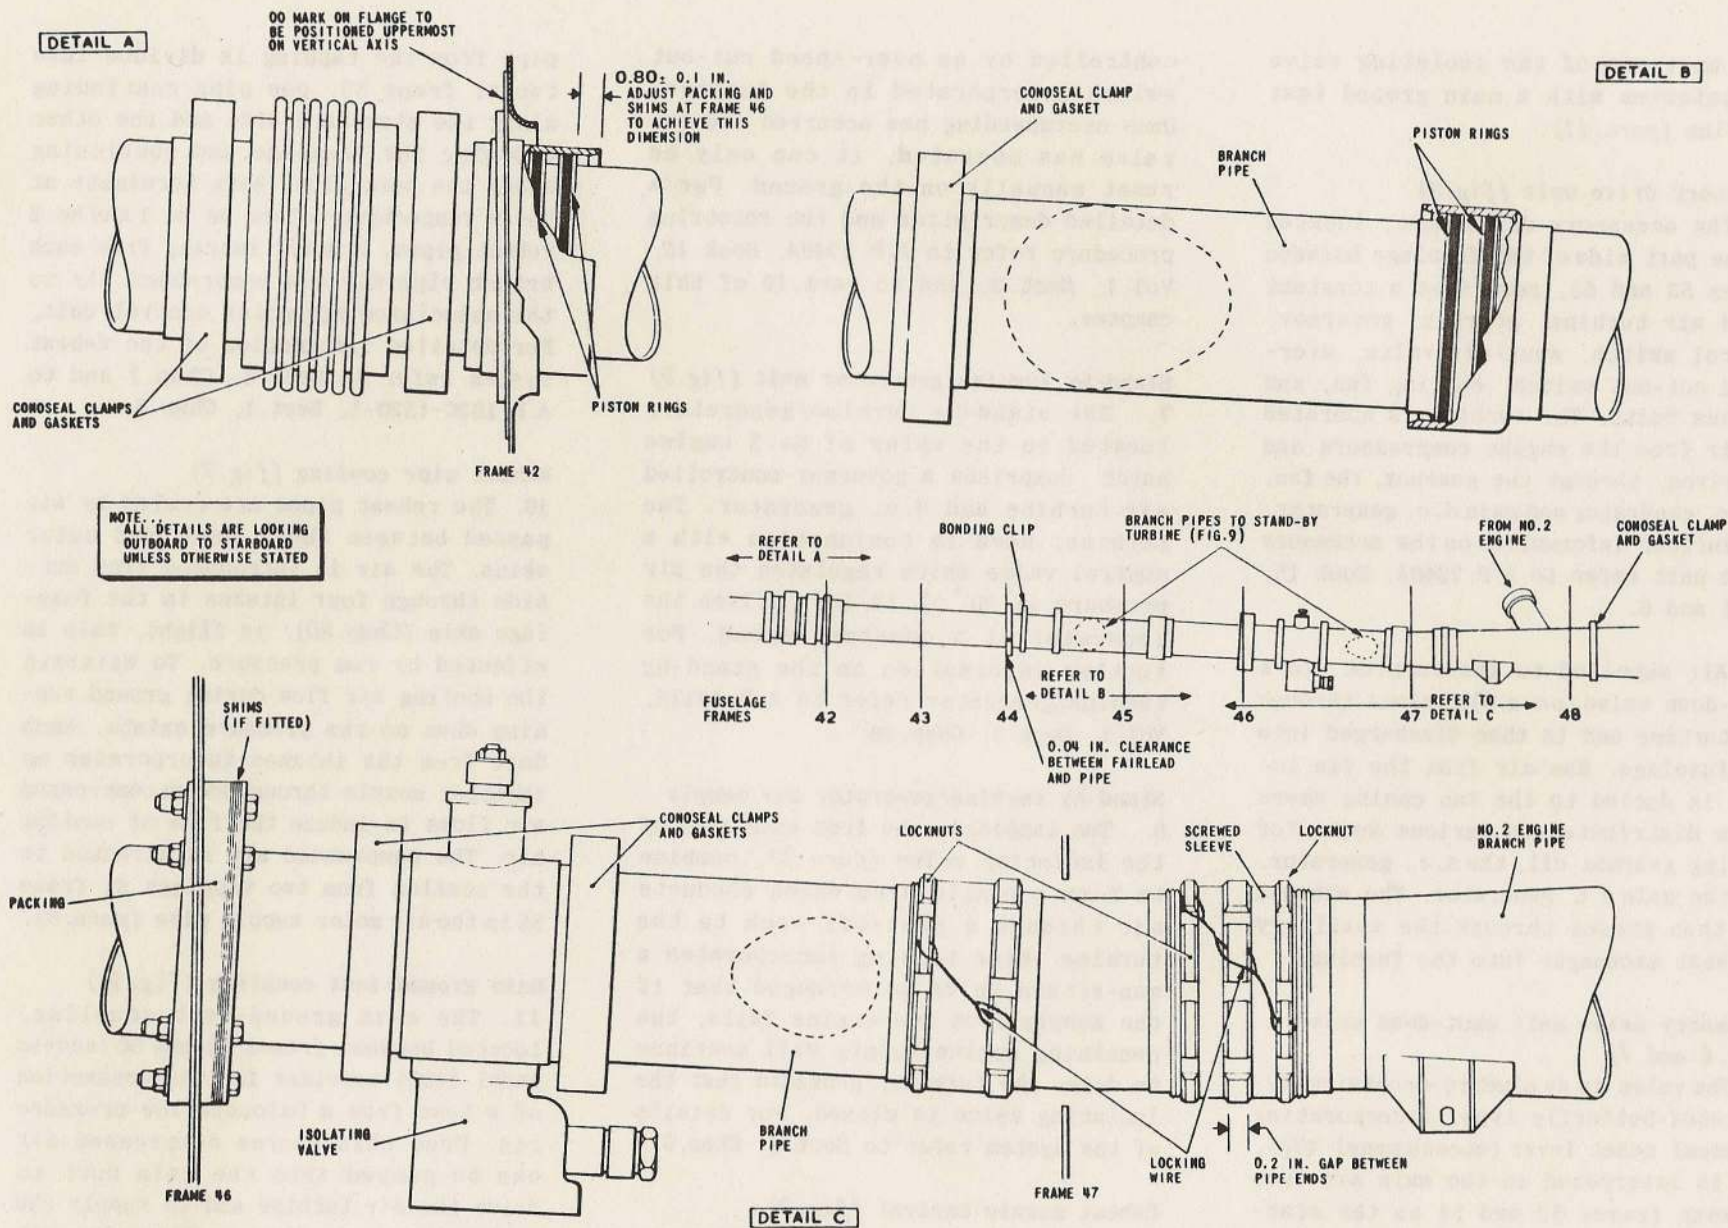

FIG. 5. MAIN AIR SUPPLY-FRAMES 39 TO 48
16. Refer to fig.5. To obtain the desired aft piston ring housing engagement in the cylinder assembly, as indicated in detail A:-